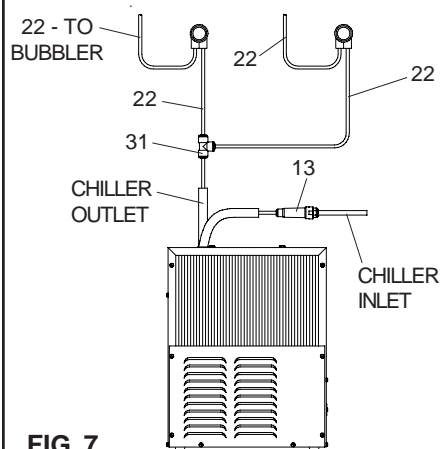
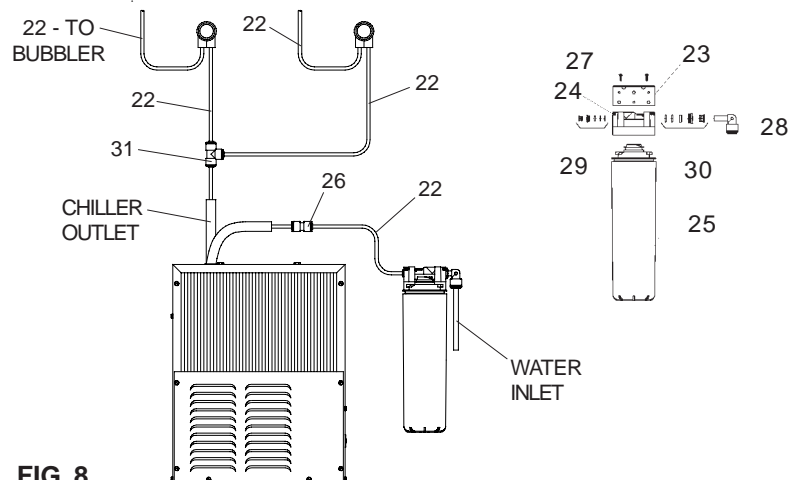
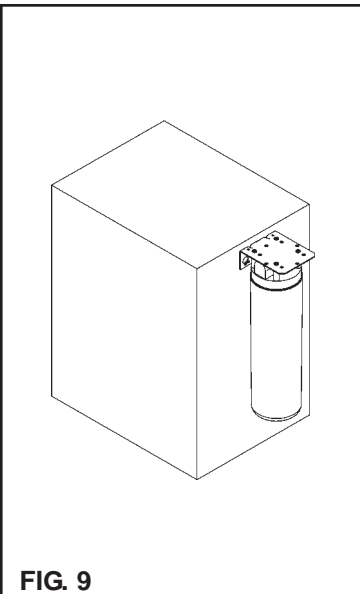

FIG. 7
FIG. 8
FIG. 9
3. **ERFP MODELS:** Make connection between remote chiller and building supply line. Inlet port is marked on the chiller (1/4" O.D. copper tube). Bend the copper tube (provided) at an appropriate length from chiller to opening in frame. Install the in-line strainer (provided with chiller) by pushing it in until it reaches a positive stop, approximately 3/4" (19mm) on the marked chiller inlet port. Connect building supply line to strainer. **DO NOT SOLDER TUBES INSERTED INTO THE STRAINER AS DAMAGE TO THE O-RINGS MAY RESULT.** (See Figures 7 or 13).
**LNTE MODEL:** Mount filter head assembly to side of chiller (See Figure 9). Make connection between filter and building supply line (3/8" O.D. tube not provided). Inlet port is marked on the chiller (1/4" O.D. copper tube). Install a 1/4" x 1/4" union (provided) on the inlet port. Insert the 1/4" poly tubing (provided) into fitting on filter and connect to the union on the chiller. **DO NOT SOLDER TUBES INSERTED INTO THE UNIONS AS DAMAGE TO THE O-RINGS MAY RESULT.** (See Figures 8 or 12).
5. **Install** the fountains. Remove access cover plates on underside of fountains and save the screws. Mount the fountains to the upper panel and the wall frame with (4) 5/16" x 3/4" (19mm) long bolts and nuts (provided). Tighten securely.
7. **ERFP MODELS:** Make connections between remote chiller outlet tube and fountains. Outlet port is marked on the chiller (1/4" O.D. copper tube). Install a 1/4" tee (provided) on the marked chiller outlet port. Insert the 1/4" poly tubing coming from the fountains into the tee. Turn on water supply and check for leaks. **DO NOT SOLDER TUBES INSERTED INTO THE TEE AS DAMAGE TO THE O-RINGS MAY RESULT.** (See Figures 7 or 13).
**LNTE MODEL:** Make connections between remote chiller and fountains. Outlet port is marked on the chiller (1/4" O.D. copper tube). Install a 1/4" tee (provided) on the marked chiller outlet port. Insert the 1/4" poly tubing coming from the fountains into the tee. Turn on water supply and check for leaks. **DO NOT SOLDER TUBES INSERTED INTO THE TEE AS DAMAGE TO THE O-RINGS MAY RESULT.** (See Figures 8 or 12).